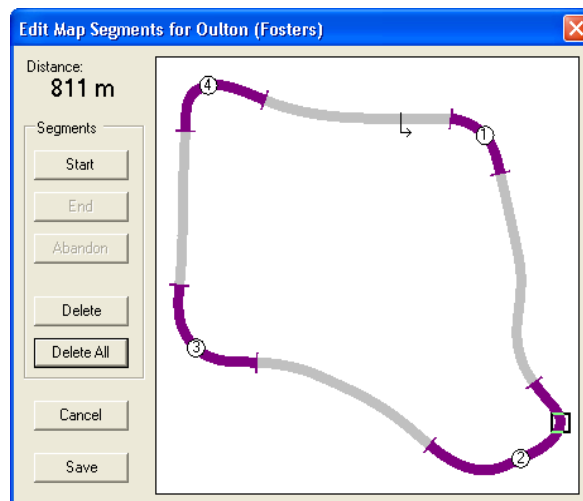

Figure 23 - Edit Map Segments Dialog (Deleting a Segment)
3. Place the cursor over the segment to be deleted by clicking the map anywhere in the segment. The **Delete** button is enabled (see Figure 23).